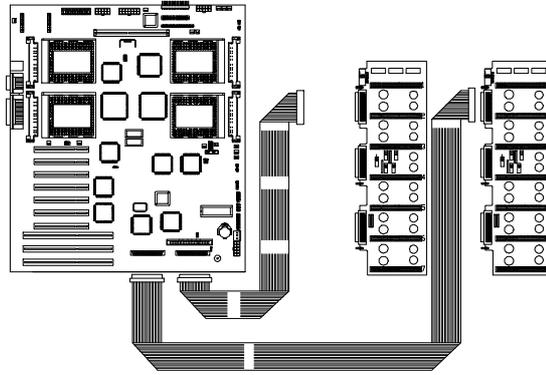

Figure 3-40 Fast-Wide SCSI HDDs or Ultra-Narrow HDDs (Single-Channel Configuration for Both Backplane Boards - 20 MB/sec or Below)
5. See Figures 3-40 and 3-41 for the cable connections.